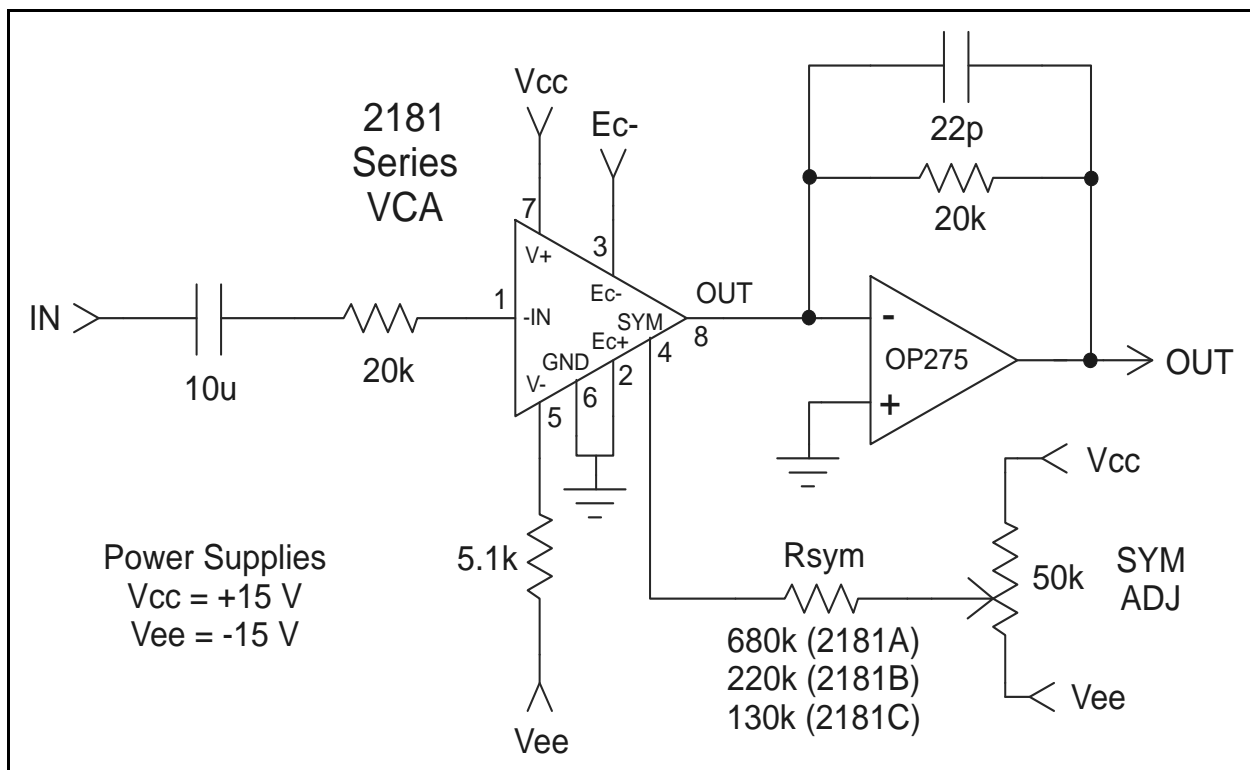
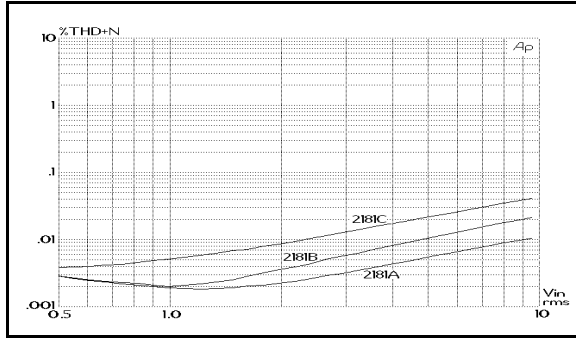
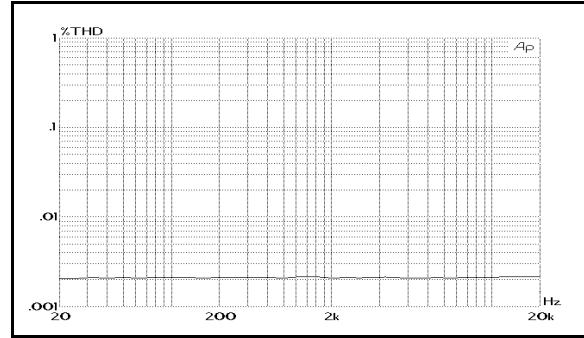
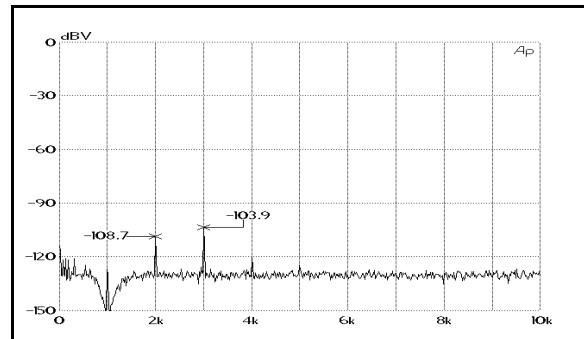

Figure 2. Typical Application Circuit
Figure 10. 1 kHz THD+Noise vs. Input Level, 0dB Gain
Figure 13. 2181A THD+N vs Frequency, 0dB gain 1kHz 1V
Figure 14. FFT of THD, Typical 2181A, 0dB Gain, 1V, 1kHz
2. Unless otherwise noted,  $T_A = 25^\circ\text{C}$ ,  $V_{CC} = +15\text{V}$ ,  $V_{EE} = -15\text{V}$ . Test circuit as shown in Figure 2. SYM ADJ is adjusted for minimum THD at 1 V, 1 kHz,  $E_C = -E_{C+} = 0$  V.
In normal operation, the output current is converted to a voltage via an opamp-based I-V converter, as shown in Figure 2, where the conversion ratio is determined by the feedback resistor connected between the output and inverting input. The signal path through the VCA and the output opamp is non-inverting.
The 2181-Series VCAs are intended to be adjusted for minimum distortion by applying a small variable offset voltage to pin 4, the SYM pin. Note that there is a 25  $\Omega$  resistor internal to the 2181 between pin 4 and pin 2. As shown in Figure 2, Page 3, the usual method of applying this offset is to use the internal 25  $\Omega$  resistor along with a larger value resistor to form a voltage divider connected to the wiper of a trim pot across the supply rails.
The 2181-Series VCA design, fabrication and testing ensure extremely good audio performance when used as recommended. The 2181 maintains low distortion over a wide range of gain, cut and signal levels. Figures 10 through 12 show typical distortion performance for representative samples of each grade of the part. At or near unity gain, the 2181 behaves much like a good opamp, with low distortion over the entire audio band. Figure 13 shows typical THD for a 2181A over frequency at 0 dB gain, with a 1 V input signal, while Figure 14 details the harmonic content of the distortion in a typical A-grade part.
The Input pin (pin 1) is a virtual ground with negative feedback provided internally (see Figure 5, Page 4). The input resistor (shown as 20 k $\Omega$  in Figure 2, Page 3) should be scaled to convert the available ac input voltage to a current within the linear range of the device. Generally, peak input currents should be kept under 1 mA for best distortion performance.
Refer to Figures 10 through 12 to see how distortion varies with signal level for the three parts in the 2181 Series for 0 dB, +15 dB and -15 dB gain. The circuit of Figure 2, Page 3 was used to generate these curves.
A designer may trade off noise for distortion by decreasing the 20 k $\Omega$  current-to-voltage converting resistors used at the input and output in Figure 2, Page 3. For every dB these resistor values are decreased, the voltage noise at the output of the OP275 is reduced by one dB. For example, with 10 k $\Omega$  resistors, the output noise floor drops to -104 dBV (typical) at 0 dB gain — a 6 dB reduction in noise because 10 k $\Omega$  is 1/2 of (6 dB lower than) 20 k $\Omega$ .
The Output pin (pin 8) is intended to be connected to a virtual ground node, so that current flowing in it may be converted to a voltage (see Figures 2 & 15). Choose the external opamp for good audio performance. The feedback resistor should be chosen based on the desired current-to-voltage conversion constant. Since the input resistor determines the voltage-to-current conversion at the input,
The SYM pin (pin 4) is actually a sort of additional positive-sense control port. It is provided to allow  $V_{be}$  mismatches in the core transistors to be adjusted after packaging and installation in the circuit board. It should only be used for this purpose. Connect pin 4 only to a high-impedance source as shown in Figures 2 and 15.